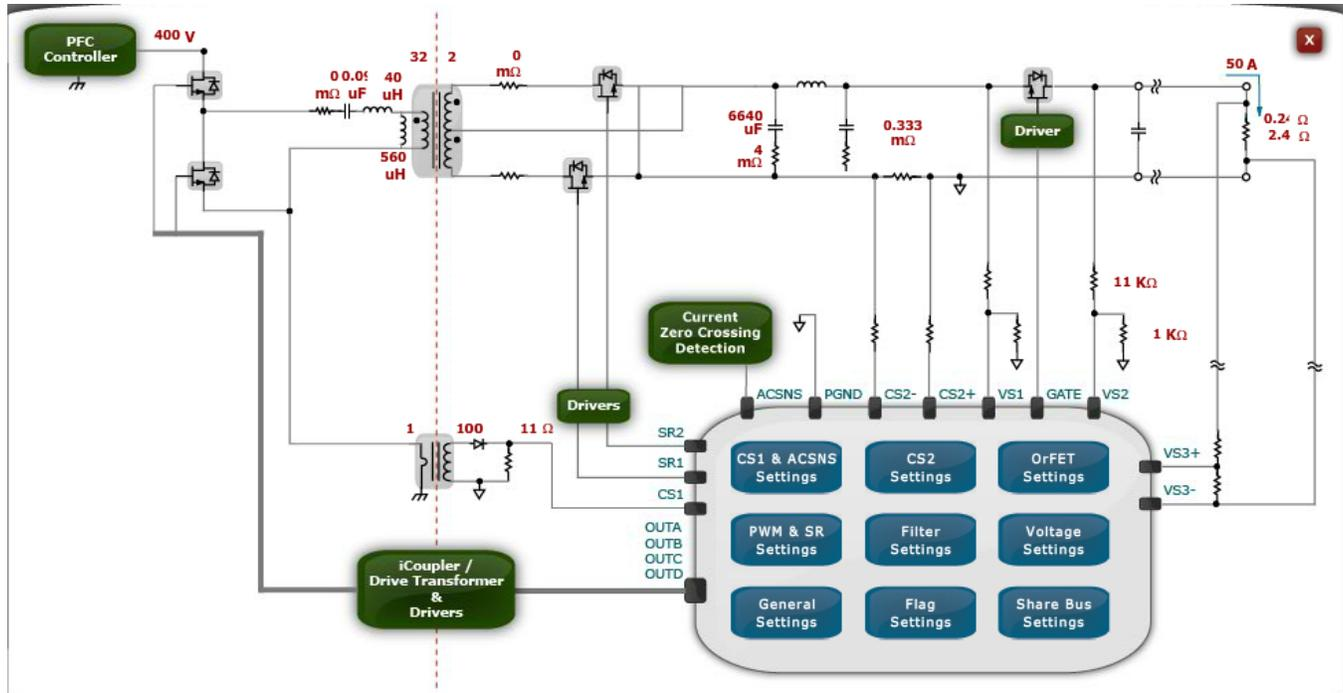

Figure 7 - Main Setup window of ADP1046A GUI
- The IC on the board comes preprogrammed and this step is optional. The original register configuration is stored in the ADP1046A\_FBPS\_600W\_XXXX.46r register file (Note: All register files have an extension of .46r). The file can be loaded using the second icon from the left in Figure 7.